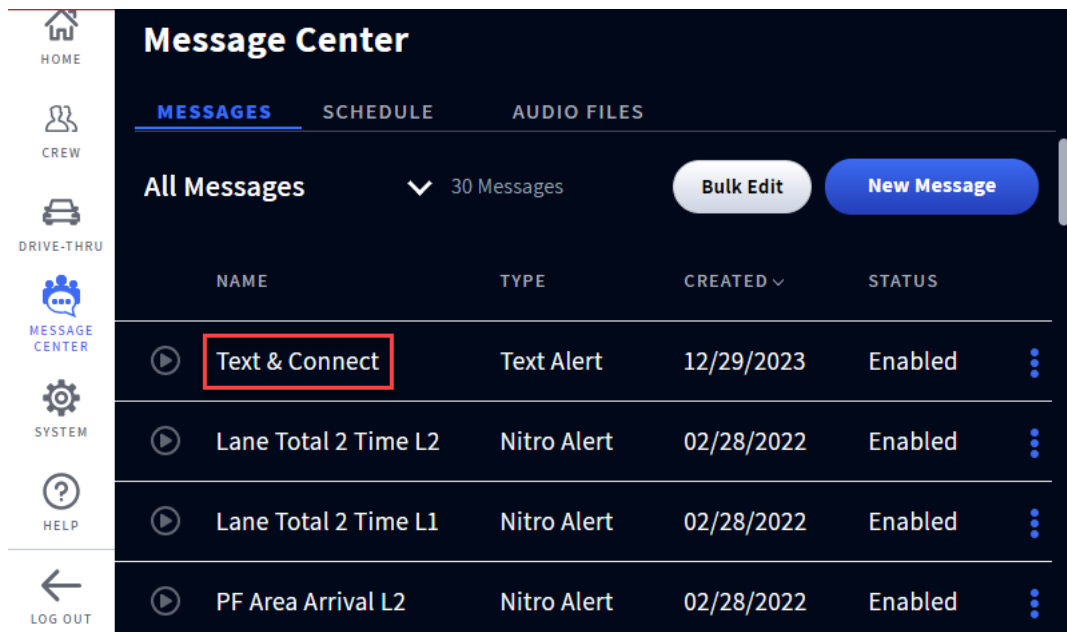

Fig. 8.8
- Once Voice Commands have been enabled, "Text & Connect" will appear in the name column on the Message Center>Messages page. See Fig. 8.8.